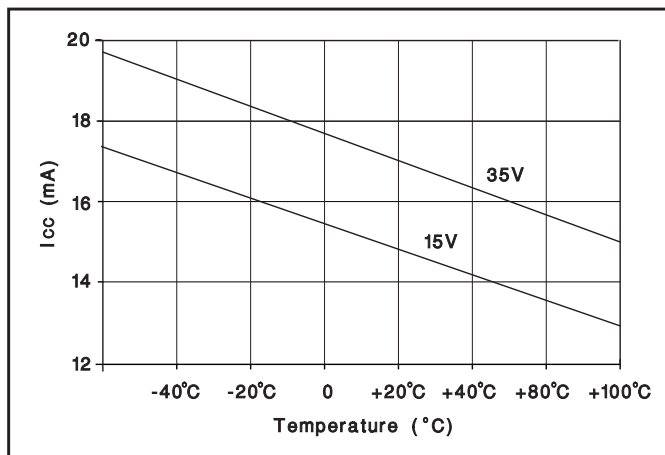

Figure 1.  $I_{CC}$  vs. temperature.
| $I_{CC}$ (run)  | (See Fig. 1)                                |       | 13   | 19    | mA            |
**VCC:** The input voltage to the chip. The chip is operational between 7.5V and 40V and should be bypassed with a  $1\mu\text{F}$  capacitor. A typical  $I_{CC}$  vs. temperature is shown in Figure 1.